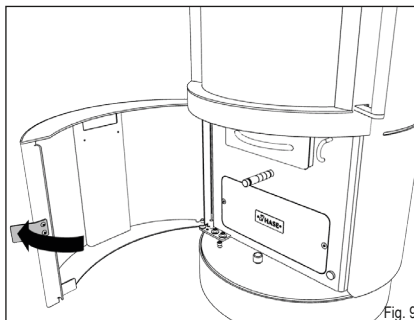

Fig. 9
- ▶ Open the service door (Fig. 9).